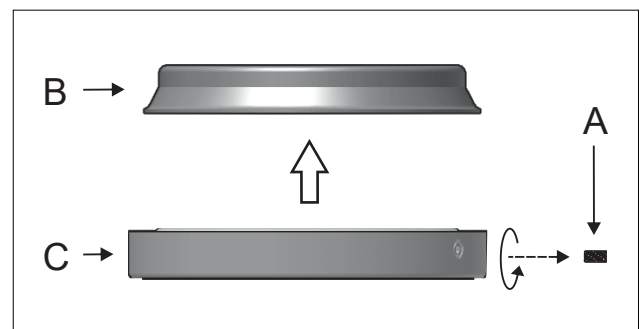

Figure 1
- 1 - Unscrew the side stud (A) to remove the mounting bracket (B) from the canopy (C). Figure 1.